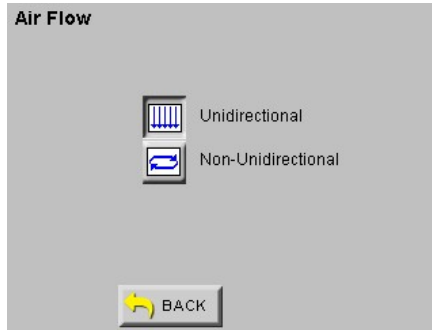

Figure 5-73 Reports Air Flow Set Up Screen
- Press the FLOW button to display screen shown in Figure 5-73.